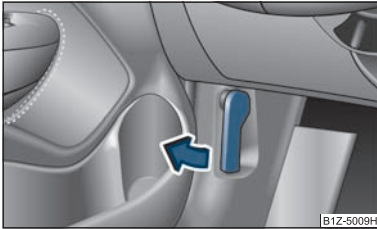

Fig. 120 Bonnet release lever
- Pull the unlocking lever below the dash panel on the driver's side ⇒ fig. 120.
- Unlock the bonnet ⇒ fig. 120.